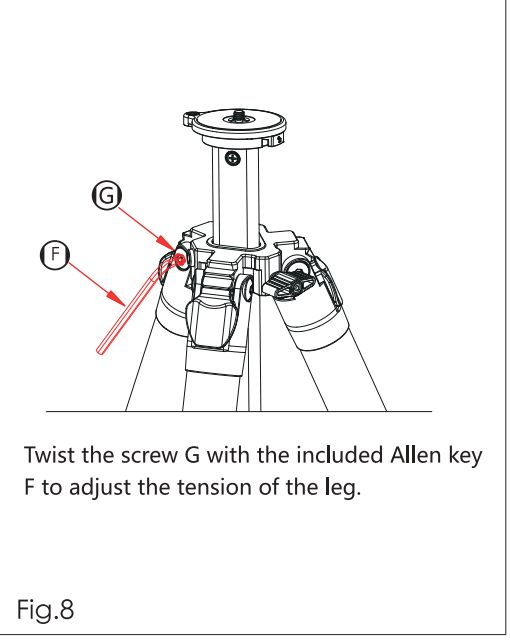

Fig.8
8. Leg tension adjustment (Fig. 8)